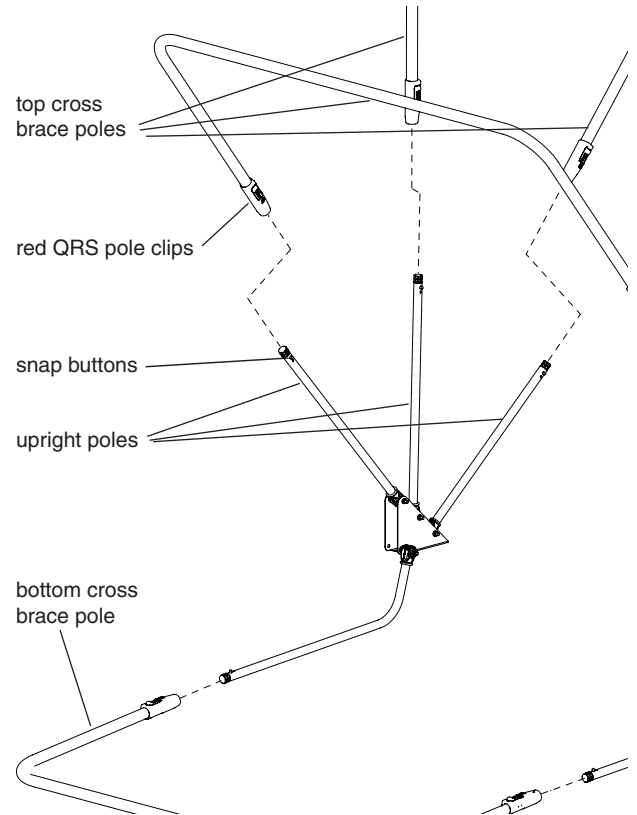

FIGURE 5 (right side shown)
15. Insert (3) hinge upright poles from each hinge and into the (3) top cross brace poles (68133 which measure approximately 75.95" x 27.96"). Making sure the lever side of large, red QRS pole clip is inline with the push button of hinge poles, push the snap buttons inward to allow cross brace pole to go over hinge poles and slide them to their shortest height (transport mode). **SEE FIGURE 5.**